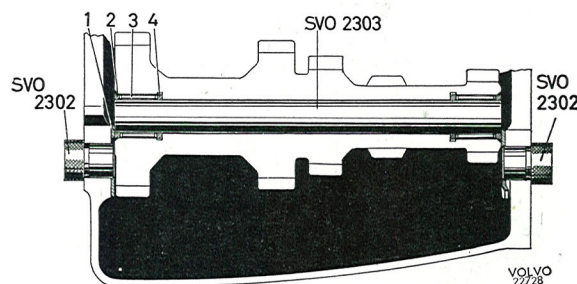

Fig. 4-39. Fitting idler gear
3. Fix the washers to the housing with grease and guide them up into position with the centering plugs SVO 2302, see Fig. 4-39. Lay the idler gear in the bottom of the housing.